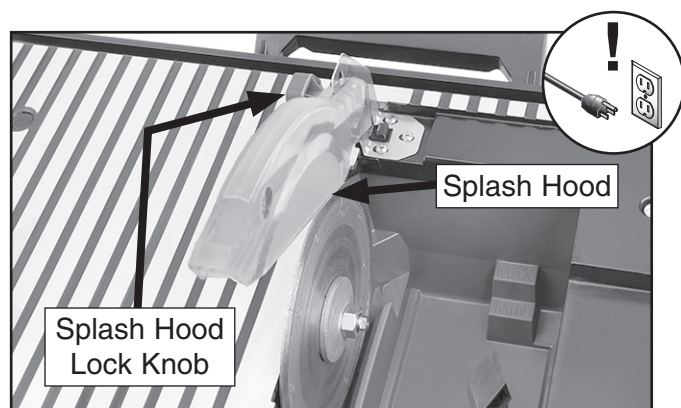

Figure 36. Splash hood in up position.
4. Loosen splash hood lock knob, lift hood fully, and tighten lock knob to secure (see **Figure 36**).